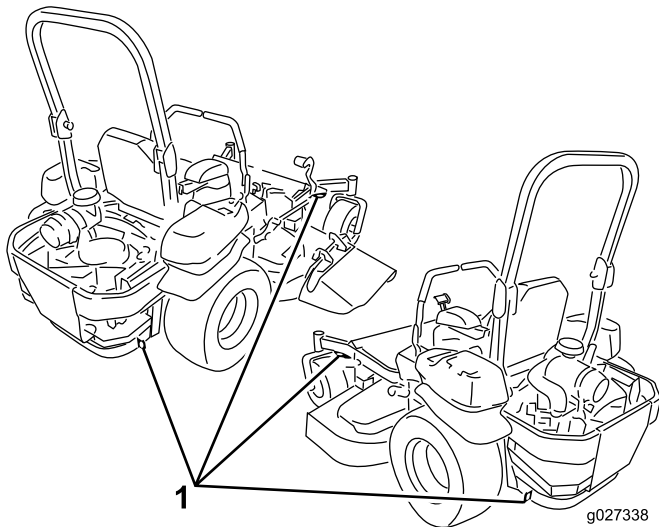

Figure 35
5. Use the metal tie down loops on the machine to securely fasten the machine to the trailer or truck with straps, chains, cable, or ropes (Figure 35).